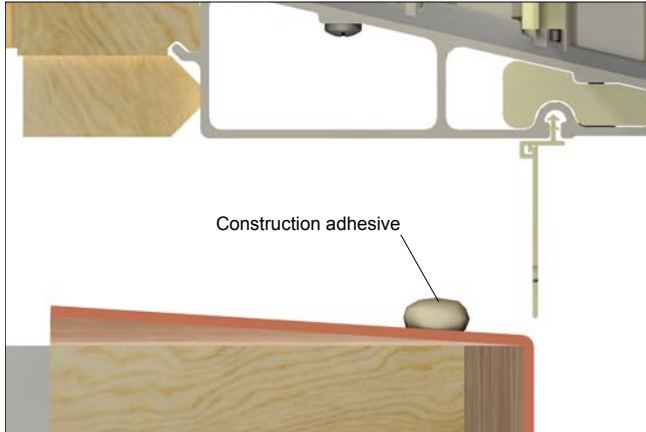
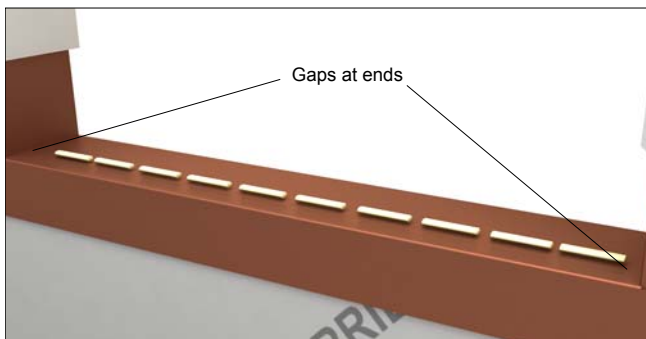

Figure 5 Adhere sill of window to the sill of opening.
Figure 6 Discontinuous bead of construction adhesive.
1. All impact rated windows (except Round Tops) must be adhered to the sill with a discontinuous 5/16" (8) bead of construction adhesive on the framing sill where it will contact the window or door frame sill. See figure 5. Leave approximately 2" (51) gaps on the ends. See figure 6. For Impact door installation methods refer to the general door installation instructions (part number 19915634) and the product specific installation instructions for your product.